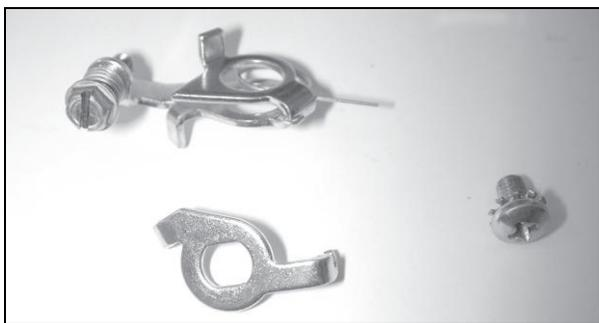
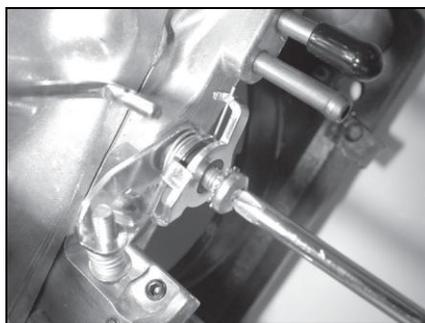

Figure 9
Figure 10
9. Install the endplate/spring combination. The spring slides into the u-shaped endplate with the fast idle speed screw as shown in Figure 9 and then slide this onto the left (passenger) side of the primary throttle shaft. When installed, the head of the fast idle speed screw should be facing towards the base of the carburetor and the threads should be pointing upward. Now install the outer bracket with the double D-shaped hole onto the end of the shaft (Fig. 10). It is advisable to keep the long straight portion of the spring unhooked and after the outer bracket is secured with the Phillips head screw to the shaft, use your little finger to lift the straight portion of the spring up and drop it into the slot on the right side of the outer bracket. If installed properly you should be able to push the fast idle speed screw forward (up) and have it return smoothly.